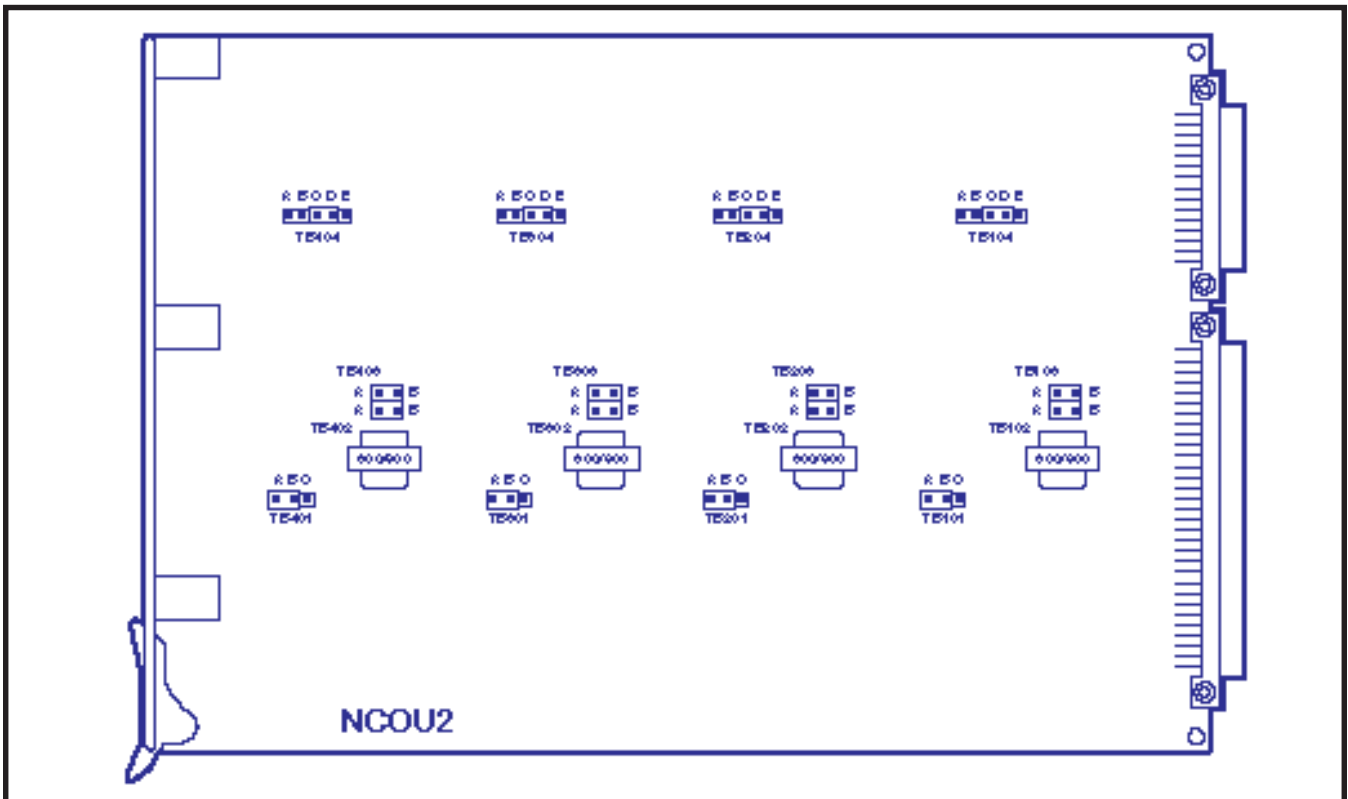

FIGURE 4-19—NCOU STRAPPING
**3.73** The NCOU PCBs have Ground-/Loop-start, 600/900-ohm termination, and 2dB pad strap selections that must be made before they are installed (Figure 4-19).
ing bar across the center pin and the outer pin labeled either 600 or 900 at each strapping location (Figure 4-19). Each circuit's strapping location is shown as follows: